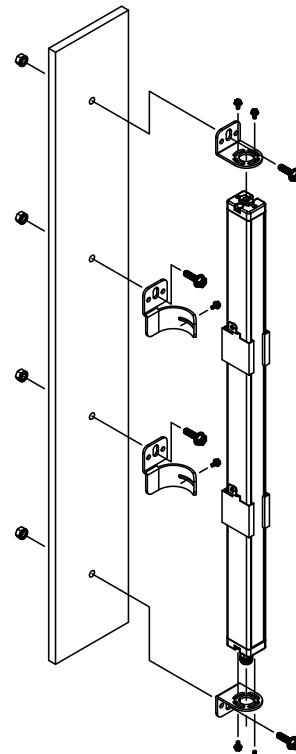

Figure 11. Emitter and Receiver Center Mounting Brackets
2. Compress the foam spacer and slide the clamp along the length of the sensor housing to align the clamp with the center mounting bracket as shown in *Figure 11* on page 21. Three separate mounting holes are provided on the clamp to allow for all possible mounting configurations.